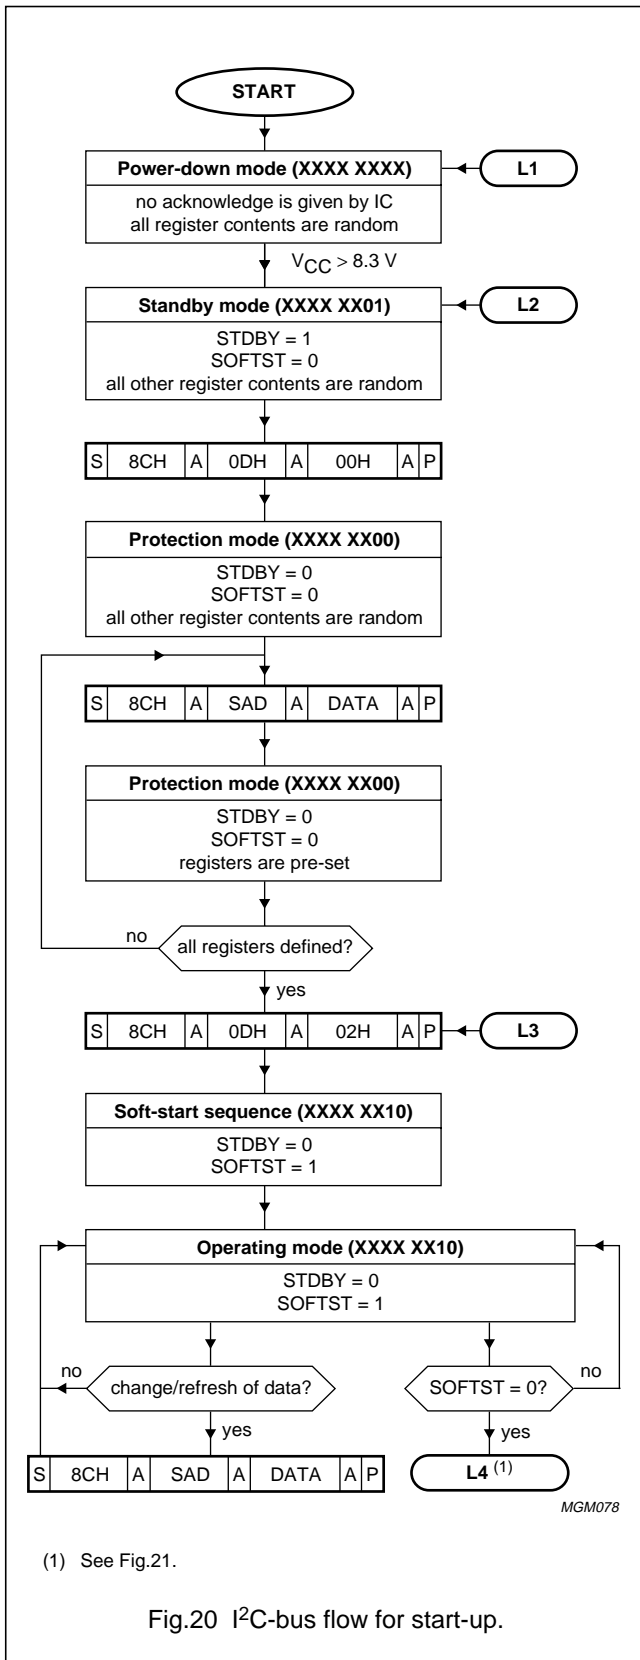

Fig.20 I²C-bus flow for start-up.
2. Starting the soft-start sequence by setting control bit SOFTST = 1 (bit STDBY = don't care); see L3 of Fig.20 for continuation
- See L2 of Fig.20 for continuation.
(1) See Figs 20, 21, 22, 26 and 27.